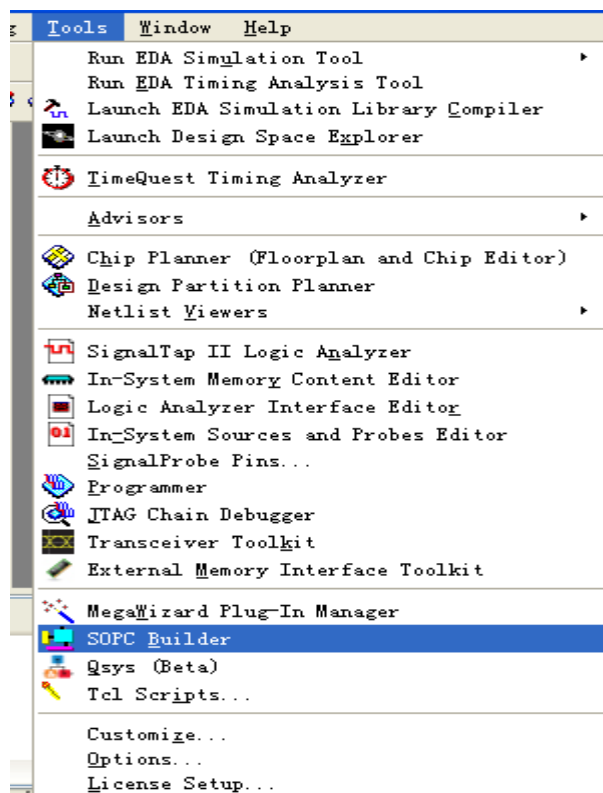

Figure 7-9 SOPC Builder Menu
5. Select **Tools > SOPC Builder** to open SOPC Builder, the Altera system generation tool, as shown in **Figure 7-9**.